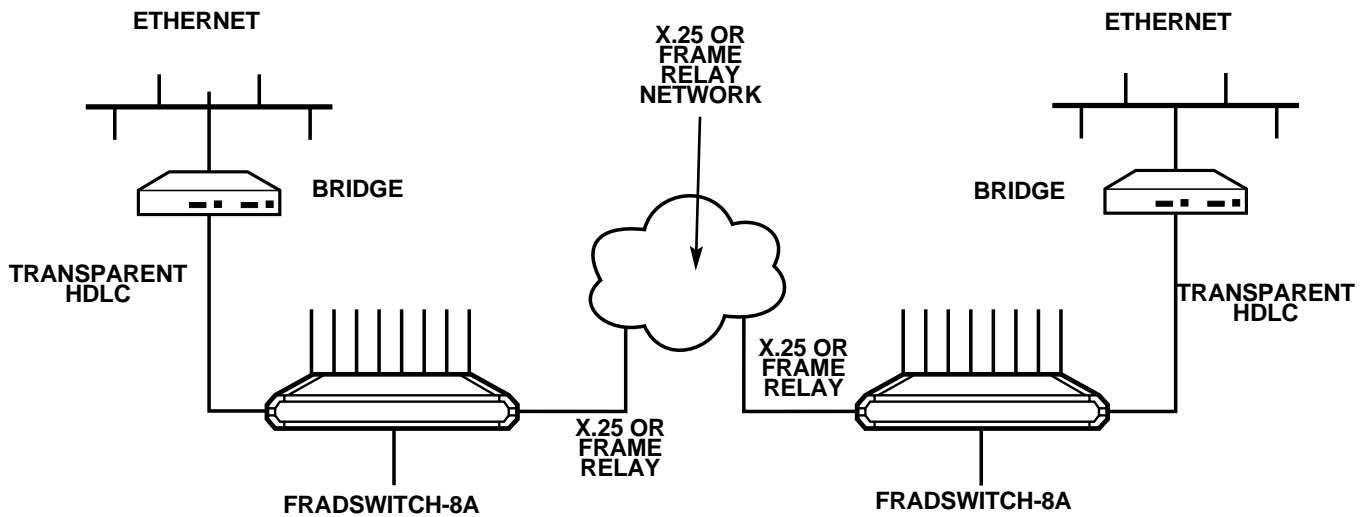

Figure 2-6. Fradswitch-8A connecting HDLC devices over X.25 or Frame Relay.
- Connection of devices supporting HDLC protocol to the X.25 or Frame Relay network. (See **Figure 2-6**.)
The Fradswitch links can be programmed to operate with transparent HDLC allowing computers, bridges, and HDLC communication devices to be connected over X.25 or Frame Relay networks. The HDLC protocol is encapsulated over the X.25 or Frame Relay protocol, providing end-to-end transparent operation. (See **Figure 2-6**.)